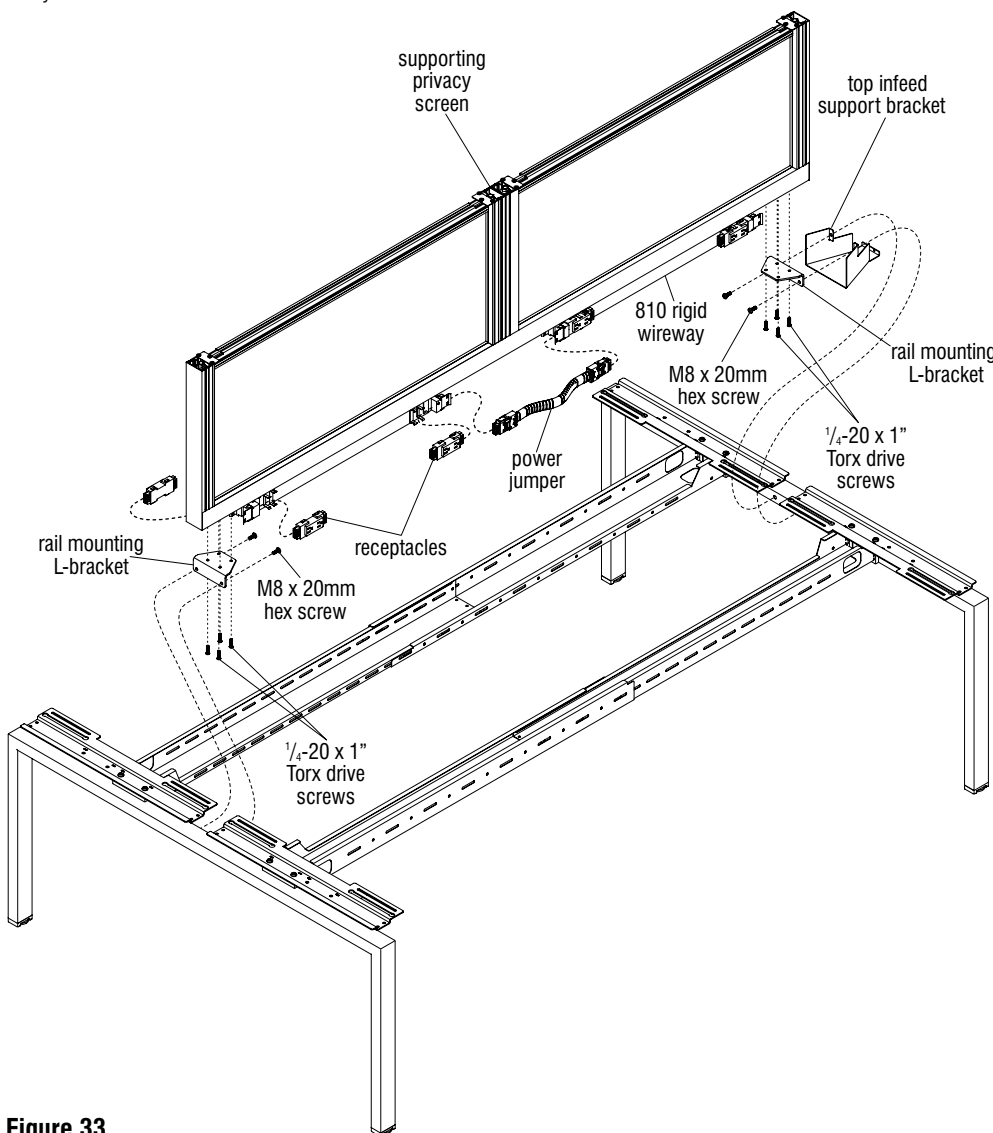

Figure 33
**Important:** At locations where a top power infeed is specified, a “top infeed support bracket” must attach to the inside of a leg at the power infeed location before a “rail mounting L-bracket” can be installed (Figure 33).
5. Begin by installing two rail mounting L-brackets, one at each of the two center locations on end legs as illustrated. Secure the rail mounting L-brackets using two M8 x 20mm screws per bracket. If top infeed support bracket is specified, install that under the rail mounting L-bracket at this time (Figure 33).
6. Set the supporting privacy screen assembly onto the installed rail mounting L-brackets. For stand-alone frame assemblies, center the supporting privacy screen exactly on the frames with equal overhang at each side. If the supporting privacy screen is to install to an intermediate, or shared support frame on either end, the end of that supporting screen will be  $\frac{1}{16}$ ” short of center on the shared/intermediate end frame (Figure 33).
7. With supporting privacy screen correctly positioned over rail mounting L-brackets, insert four  $\frac{1}{4}$ ”-20 x 1” Torx drive screws through each L-bracket, insert into the threaded channels of the rail under the supporting screen, and tighten to secure (Figure 33).
8. If specified, the supporting privacy screen may contain one or two 810 rigid wireways attached to the rail, depending on length of screens. If two rigid wireways are attached, plug the appropriate power jumper in between the wireways. Locate and plug all duplex receptacles into both sides of the 810 rigid wireways, taking care to follow the space-planning layout for correct receptacle number/placement (Figure 33).